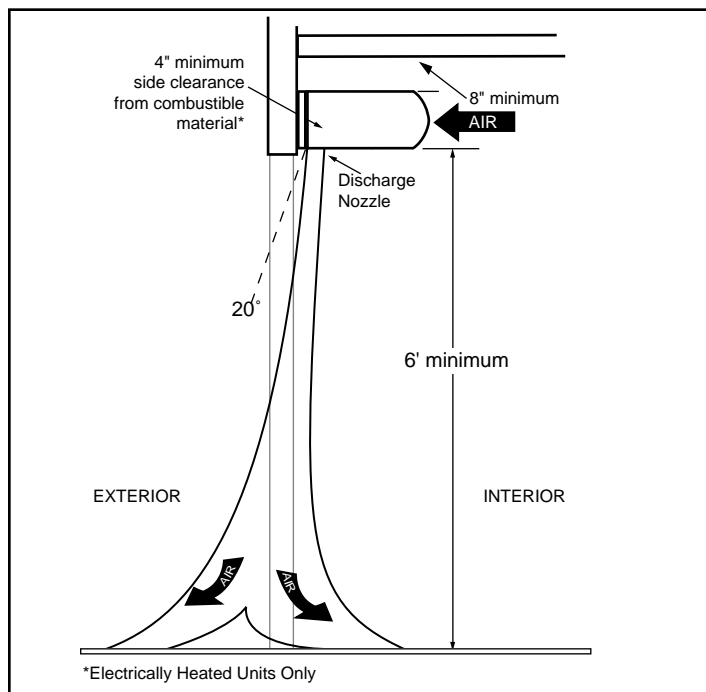

Figure 2
The MARK/DIPLOMAT air door is designed to be an effective barrier against cold drafts in the winter and hot air in the summer, flying insects and airborne contaminants. To achieve optimum protection, the unit should be mounted on the inside of the building, flush to the wall and as close to the top of the door opening as possible. To ensure peak performance keep air stream free of obstructions. **See Figure 2.**
1. Install the MARK/DIPLOMAT air door so that nothing interferes with the curtain of air when it is deflected 20° to either side. If the air stream strikes any obstruction, i.e. the top edge of the doorway, a structural beam, a door opening device, etc., its efficiency will be greatly reduced. **See Figure 2.**
- C) Do not install less than six feet (or 1.8 meters) from the floor to the unit. **See Figure 2.**